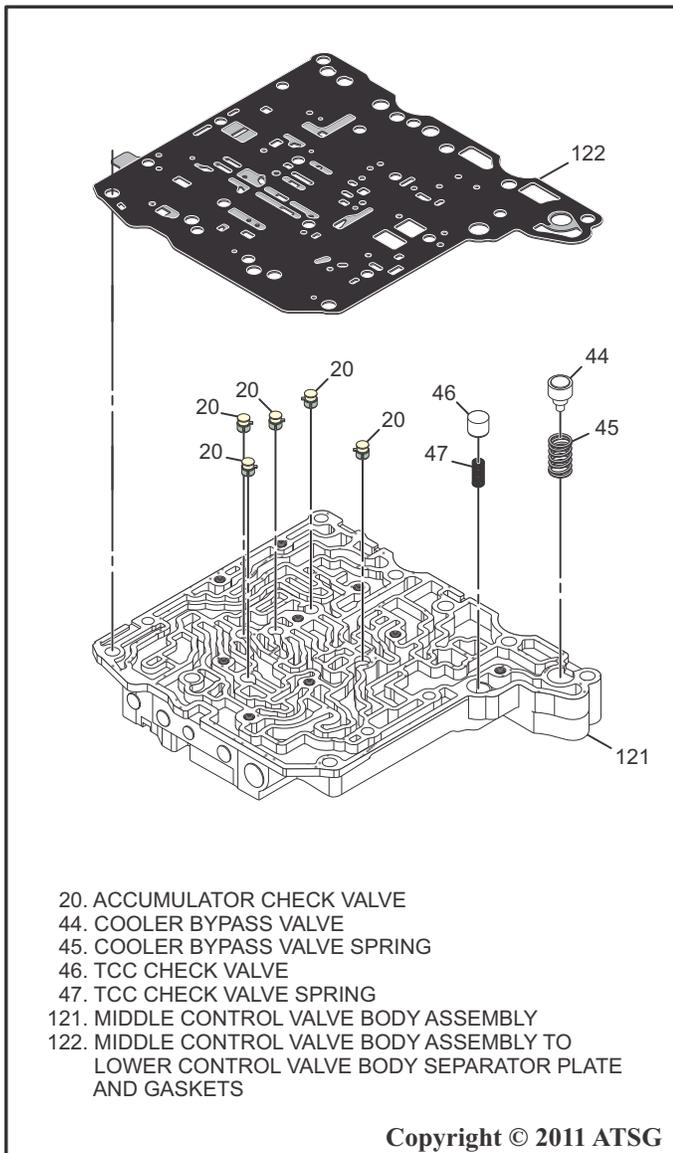

Figure 168
38. Install the cooler bypass valve spring and the cooler bypass valve, the TCC check valve spring and the TCC check valve and the five accumulator check valves into the middle control valve body assembly as shown in Figure 168.
39. Install the middle control valve body assembly to lower control valve body separator plate and gaskets onto the middle control valve body as shown in Figure 168.
46. Install the S2, S3, and S4 solenoid oil filters into the middle control valve body as shown in Figure 168.